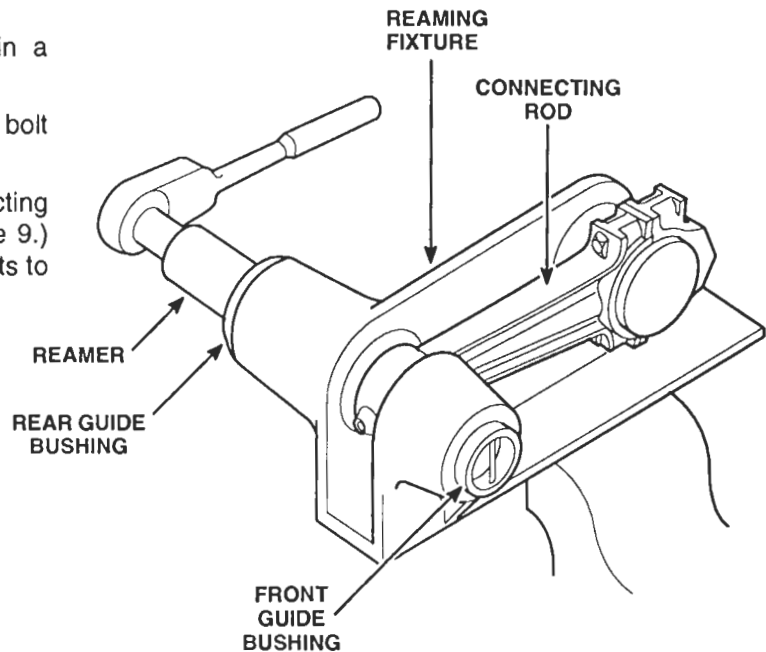

Figure 9. Reaming Bushings
- c. Place the crankshaft end of the connecting rod on the arbor of the fixture (Figure 9.) and tighten the connecting rod cap nuts to 60–70 lb·ft (81–95 N·m) torque.